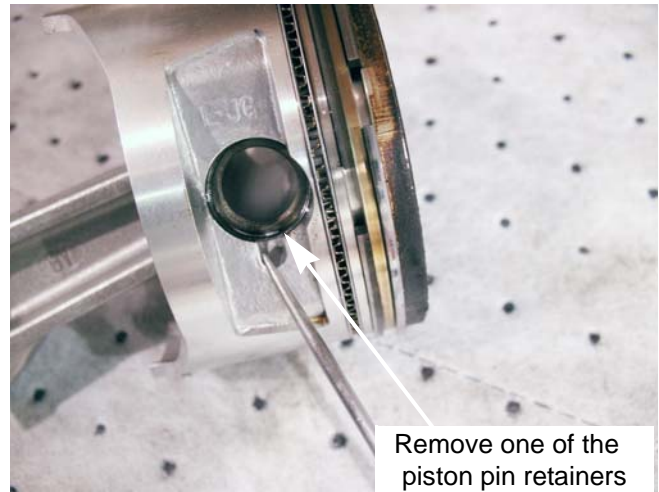

Figure 10.5
17. Remove one of the piston pin retaining rings. See Figure 10.5.